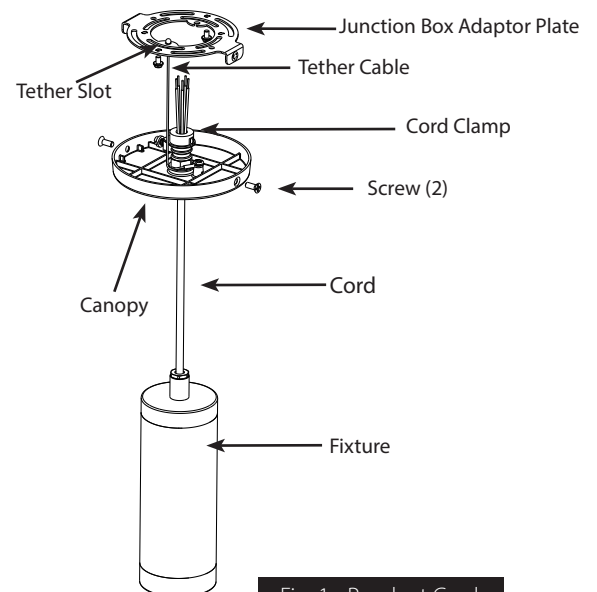

Fig: 1 - Pendant Cord
1. Remove **Screws (2)** from the side of the **Canopy** as shown in **Fig. 1 & 2**.
4. Press **Canopy** to **Junction Box Adaptor Plate** and replace **Screws (2)** to secure the **Fixture** to the **Junction Box Adaptor Plate**.